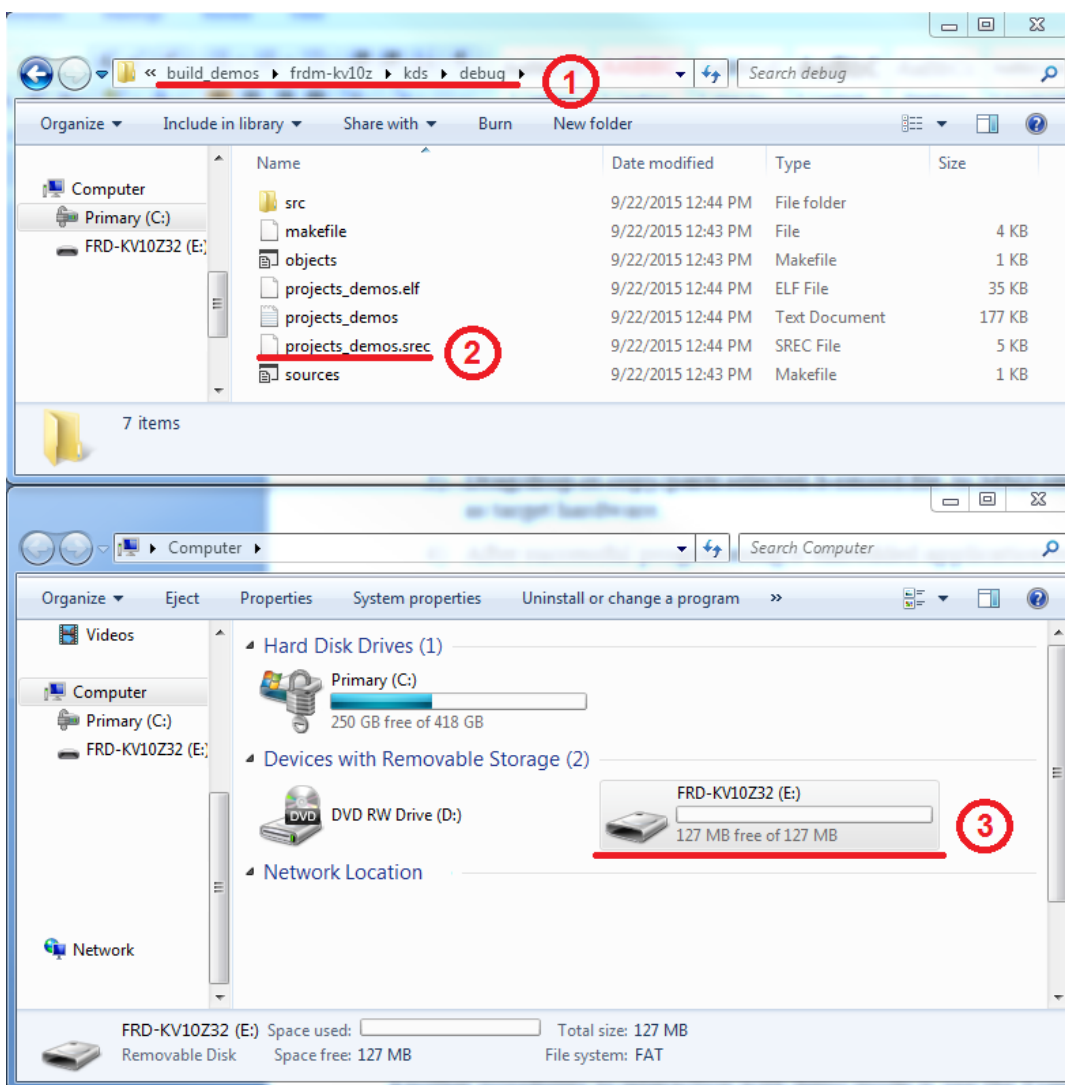

Figure 34. OpenSDA MSD
2. Locate the generated binary file (*.srec*, *.s19*, or *.bin* file extension) (for example *pmsm\_package/build\_demos/<board\_MCU>/<tool>/debug/projects\_demos.srec*, as shown in Figure 34, Point 1).
3. Drag/drop or copy/paste the selected binary file (Figure 34, Point 2) to the MSD removable drive with the volume labelled as the target hardware (Figure 34, Point 3).